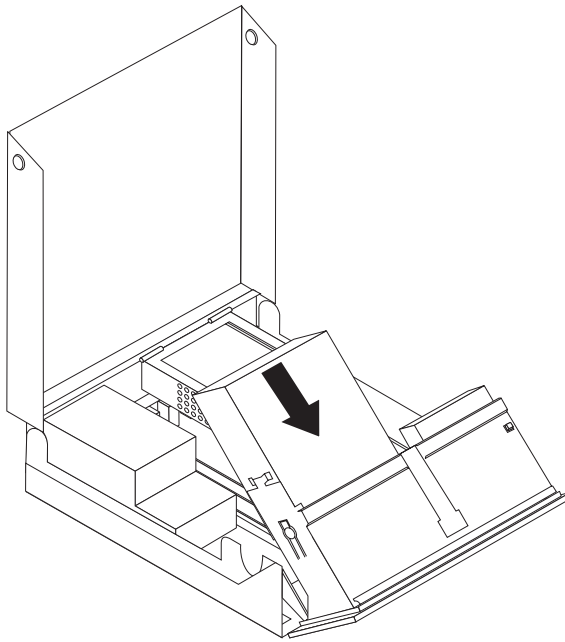

Figure 10. Locking the optical drive
5. Slide the drive into the bay until it locks in position. See Figure 10.